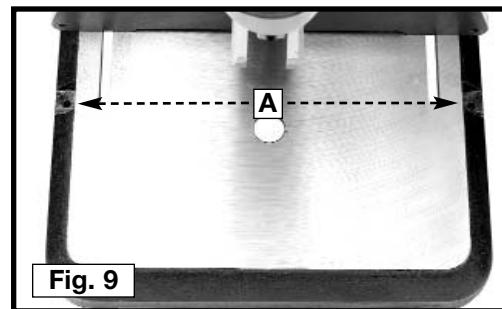

Fig. 9
If during operation there is any tendency for the mortiser to tip over, slide or walk on the supporting surface, the base must be secured to the supporting surface with fasteners (not supplied), through the two holes (A) Fig. 9, located in the mortiser base.